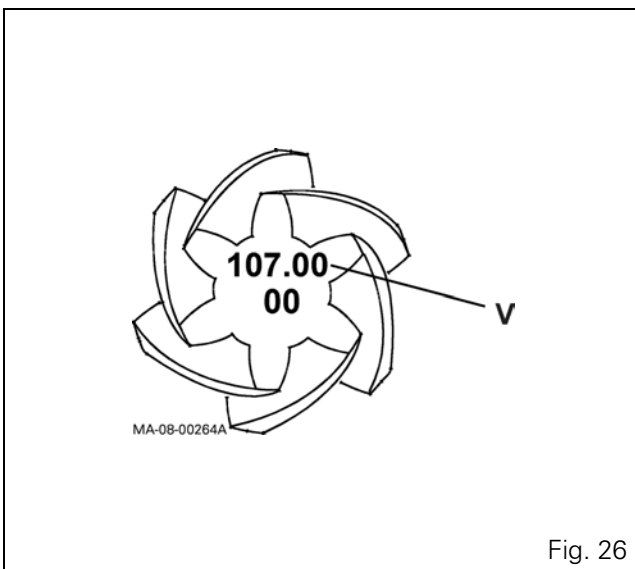

Fig. 26
36. To determine the necessary thickness S between the pinion and bearing, subtract the value V engraved on the pinion head (V = specified apex distance) from the measured value B (Fig. 26):